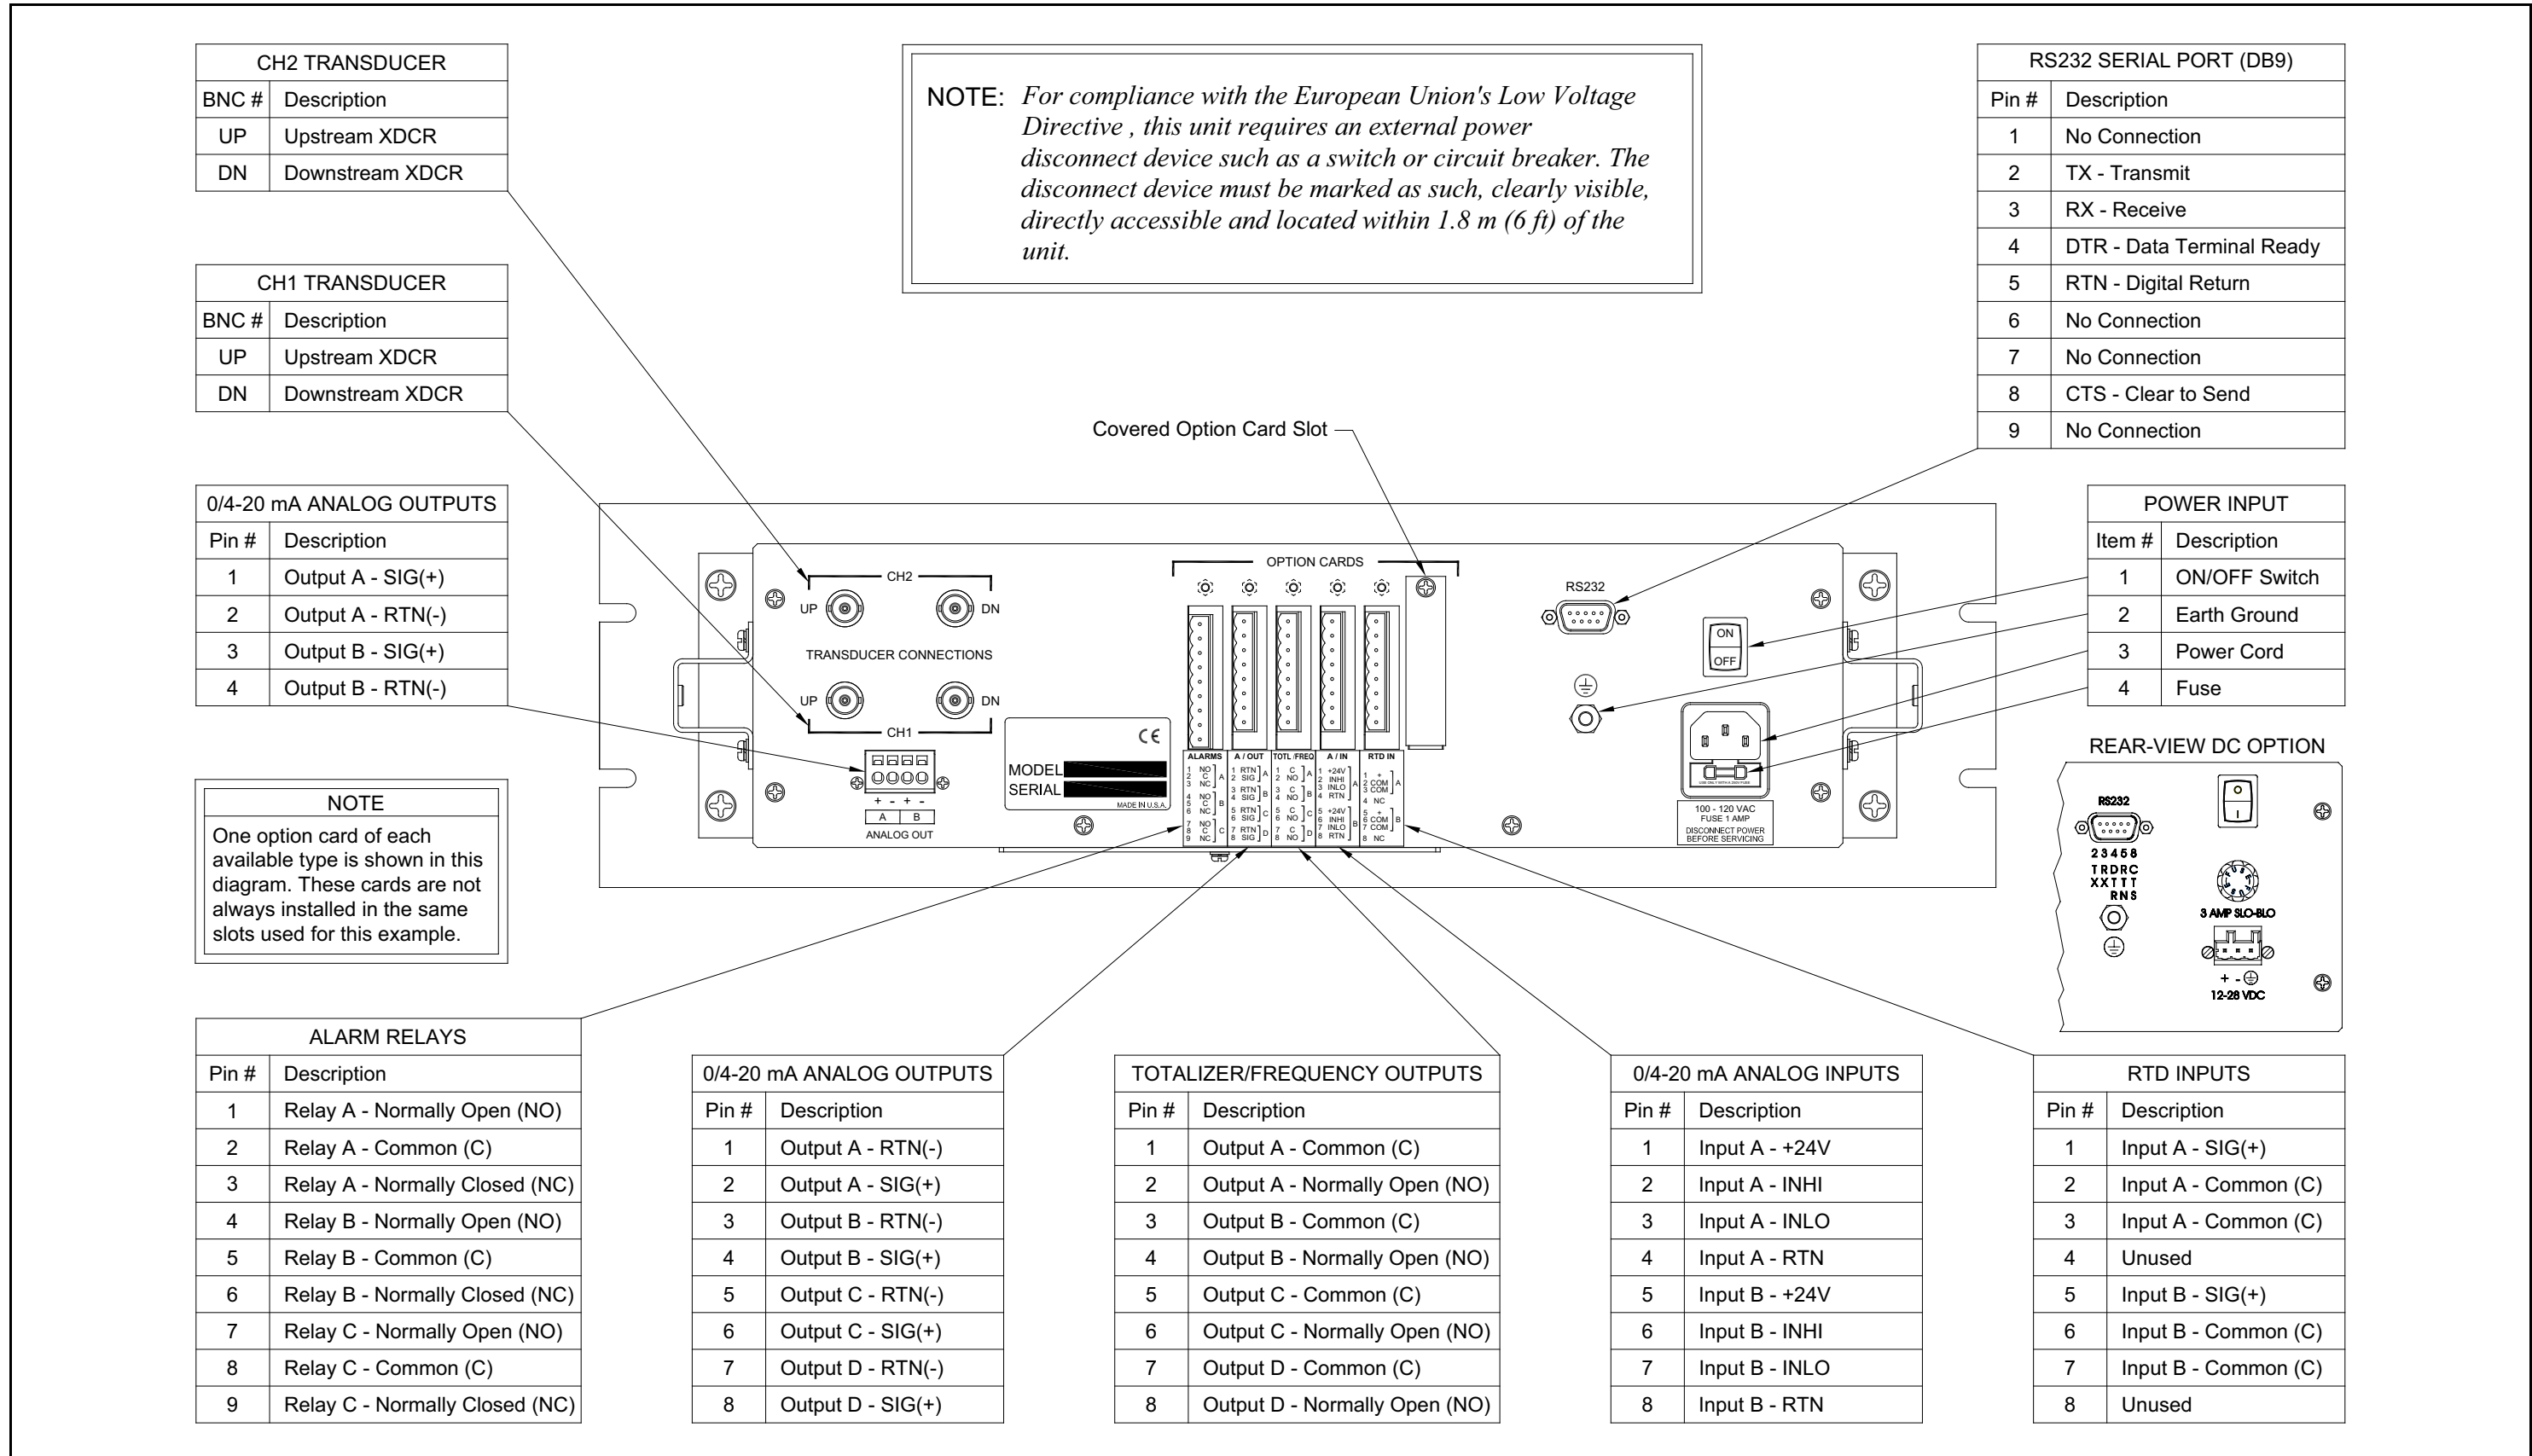

Figure 16: Model GM868 Rack Mount Enclosure - Wiring Diagram
The rack mount Model GM868 requires exactly the same electrical connections as the standard version. However, the locations and type of connectors used for the various components are different. Refer to *Figure 16 on page 52* and complete the following steps:
- a. Purchase or prepare a suitable serial cable. This cable should have a standard female DB9 connector, wired as shown in **Figure 16 on page 52** for connection to the rear panel of the Model GM868. The other end should be as required for the external device.
5. Wire any installed *option cards* using the same procedures described in Chapter 1, *Installation*, of this manual and the pin # assignments shown in *Figure 16 on page 52*.